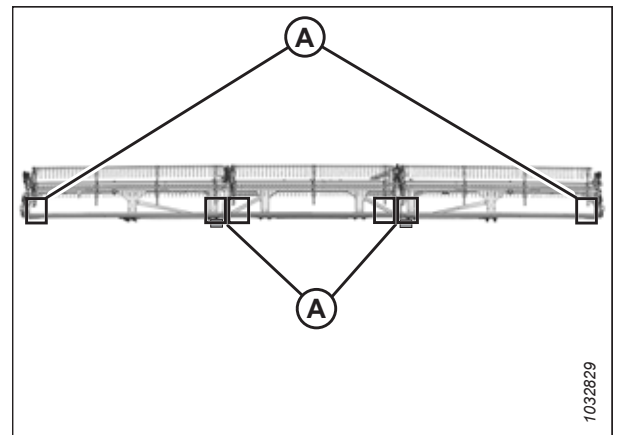

Figure 4.281: FlexDraper® Measurement Locations – Triple Reel
- Triple-reel headers: Figure 4.281, page 421